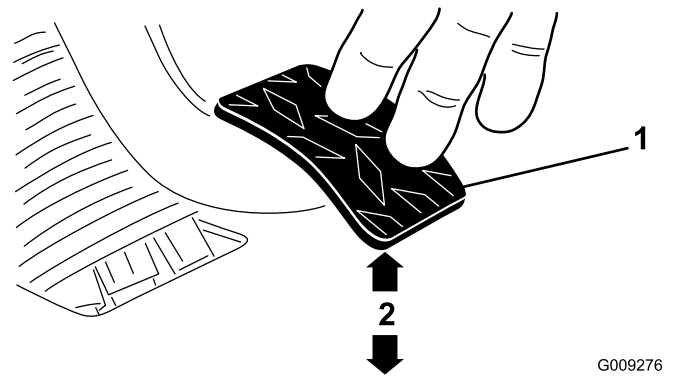

Figure 62
3. Adjust the jam nuts or ball joint until the rear edge of the clutch pedal is 9.2 to 9.8 cm (3-5/8 to 3-7/8 inches) from the top of the floor plate diamond pattern, when you apply 1.8 kg (4 lb) of force to the pedal (Figure 62).